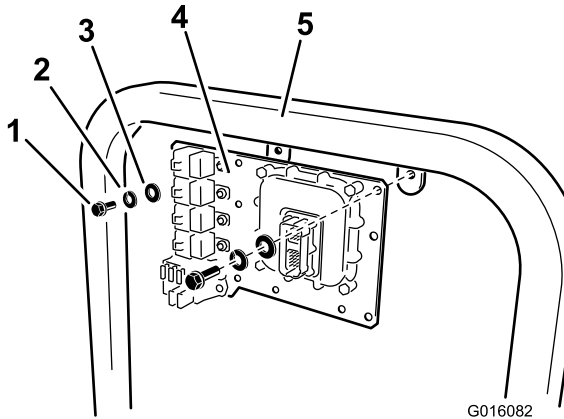

Figure 14
- A. **For the Multi-Pro 1200 and 1250:** Install the mount plate using 2 bolts (5/16 x 3/4 inch), 2 lock washers (5/16 inch), and 2 flat washers as shown in Figure 14.